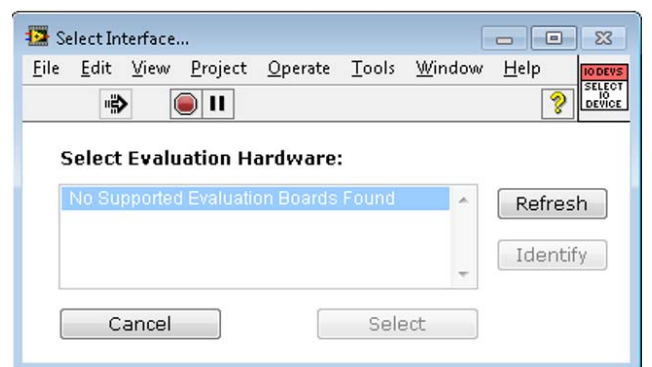

Figure 14. Connectivity Error Alert
2. If the **AD7768-4** evaluation system is not connected to the USB port via the SDP-H1 when the software is launched, a connectivity error displays prompting the user to choose an evaluation board (see Figure 14). Connect the evaluation board to the USB port of the PC, wait a few seconds, click **Rescan**, and then follow the on-screen instructions.